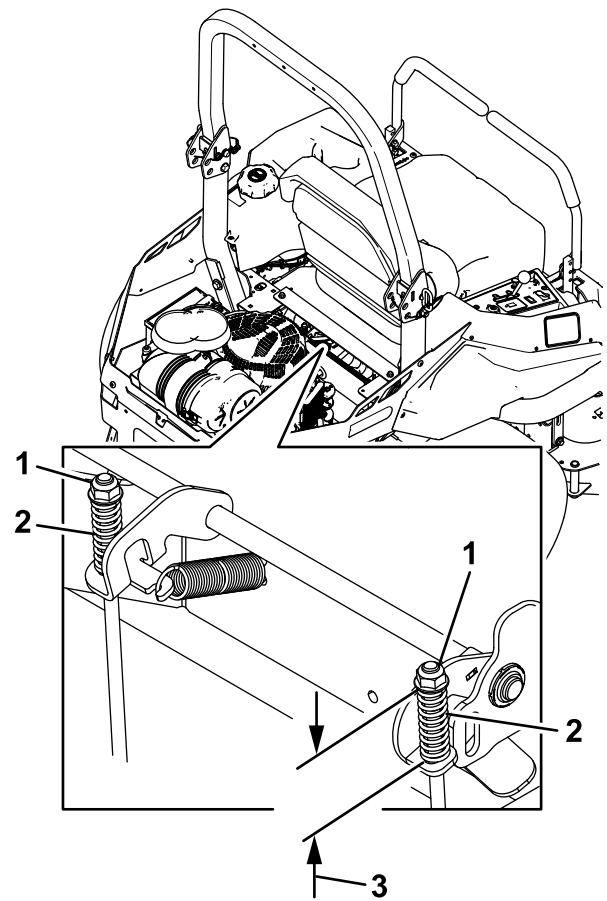

**Figure 62**
6. If an adjustment is necessary, disengage the parking brake. Remove the cotter pin from the brake linkage shaft (Figure 62).